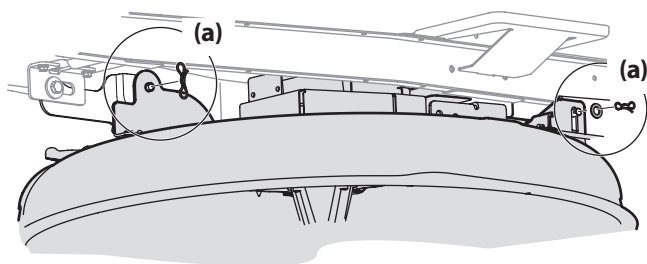

Figure 20
5. Remove the remaining bow-tie cotter pins (a) securing the deck to the riding mower, as shown in Figure 20.
5. Secure the deck to the deck lift arms using two bow-tie cotter pins. See Figure 20.
NOTE: The bow-tie cotter pins (a) should be installed from the top down. See Figure 20.